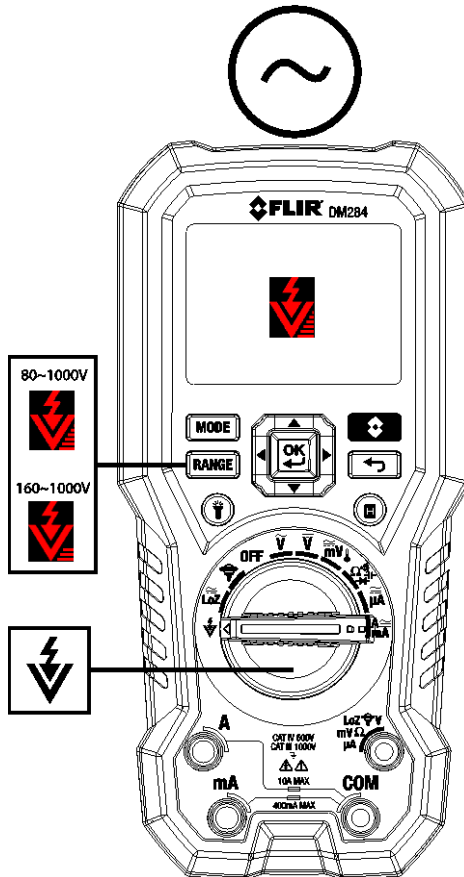

Fig. 7-2 Non-Contact Voltage Detector
1. Set the function switch to the NCV  position. See **Figure 7-2**.